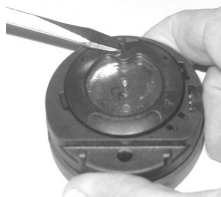

Fig. 63 - COVER RING
- While applying steady inward pressure on the center of the Battery Cover, rotate the Retaining Ring 10 degrees clockwise by pressing against the upper tab of the Ring with a small blade screwdriver (Fig. 63).